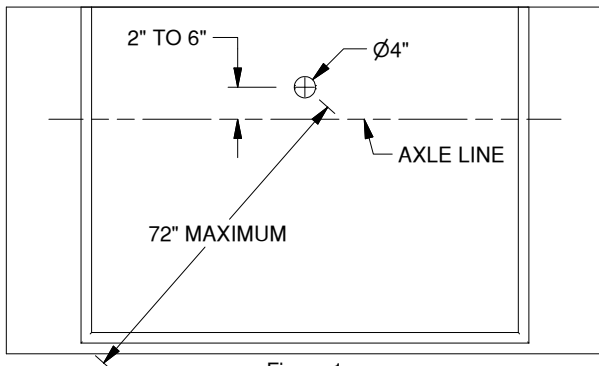

Figure 1
1. **Drill the 4" hole.** To achieve proper turning clearance for most trailers, Mark the position of the receiver socket hole 2-6" forward of the axle. Do not exceed 72" from the center of the socket to the rear corner of the bed. Once the appropriate location is determined and marked, proceed to drill a 4" hole in the truck bed, see Figure 1.